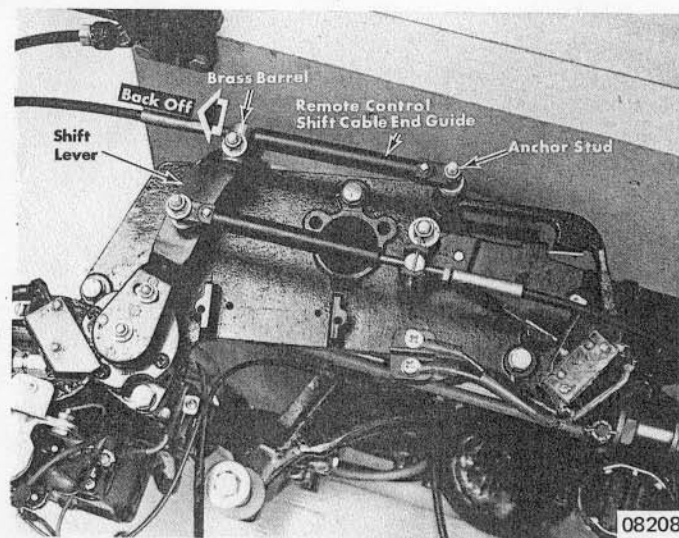

Figure 4. Installing and Adjusting Remote Control Shift Cable
- c. After remote control shift cable has been aligned with anchor studs, back brass barrel off 4 turns (away from cable end guide). (Figure 4)
- d. Install shift cable on anchor studs and secure with flat washers and elastic stop nuts. (Figure 4)